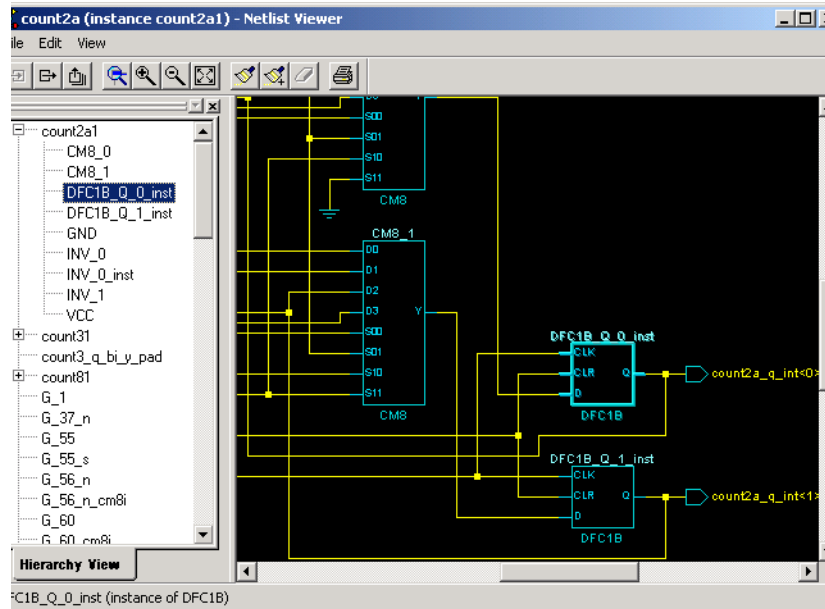

Figure 2-7. Hierarchy View Window
2. **Select an instance name in the hierarchy.** The instance is located and highlighted in the Schematic Viewer, as shown in Figure 2-7. All parents as well are selected. Since any item selected in one window is selected in all,